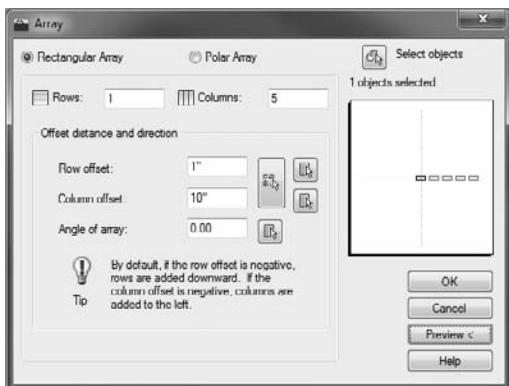

FIGURE 5.26 Using the Array dialog box to specify the offset parameters for the stairs
The Array dialog box (Figure 5.26) appears, asking you to specify a number of parameters about your array.
9. After selecting the objects to be arrayed, change the following values from within the Array dialog box, as shown in Figure 5.26: